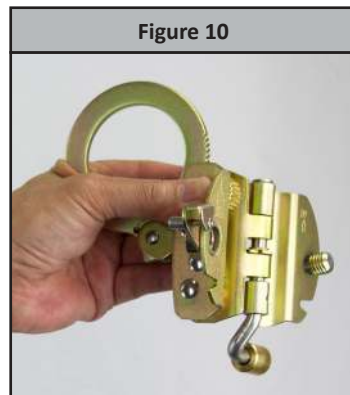
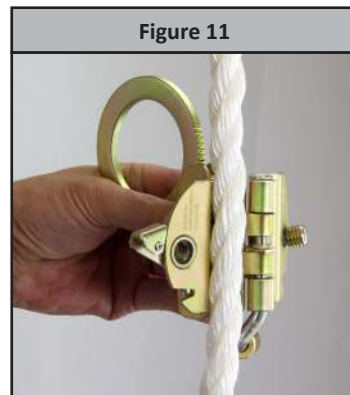

Figure 10
Figure 11
Step 4: Lift the ring to retract the cam assembly. See Figure 10. Place the VLL in the rope channel. See Figure 11.